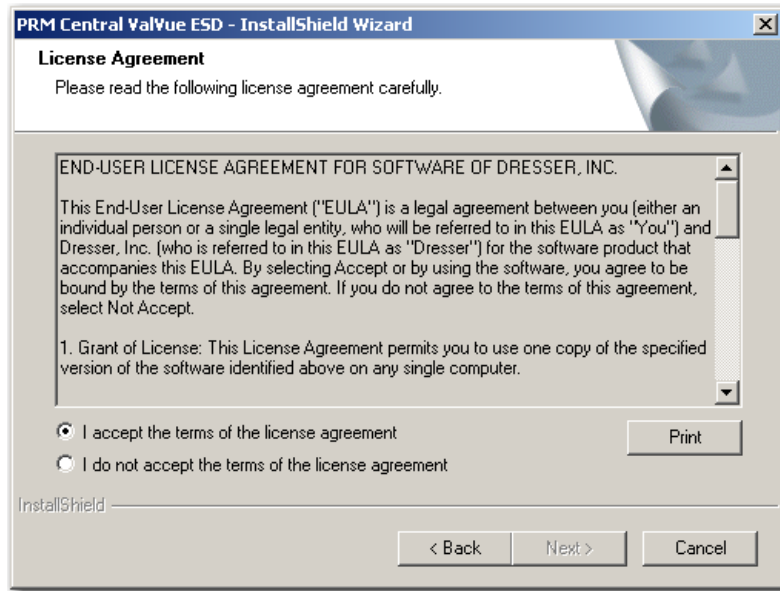

Figure 11 PRM Central Server License Agreement
5. Click **Next** and the *License Agreement* screen appears (Figure 11).